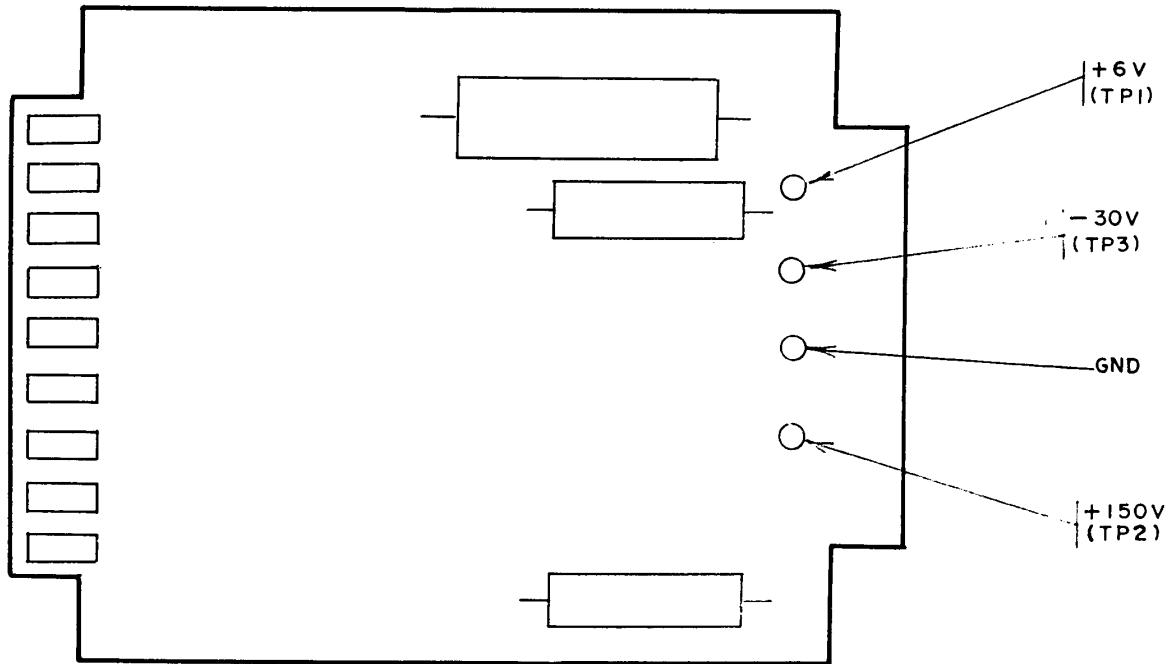

Figure 10. A4 Assembly - test point locations.
(2) Connect ac/dc voltmeter between +6 V test point (TP1) of A4 assembly (fig. 10) and circuit ground. Ac/dc voltmeter will indicate between 5.94 and 6.06 V dc.
(3) Connect ac/dc voltmeter between +150 V test point (TP2) of A4 assembly (fig. 10) and circuit ground. AC/dc voltmeter will indicate between 145.5 and 154.5 V dc.